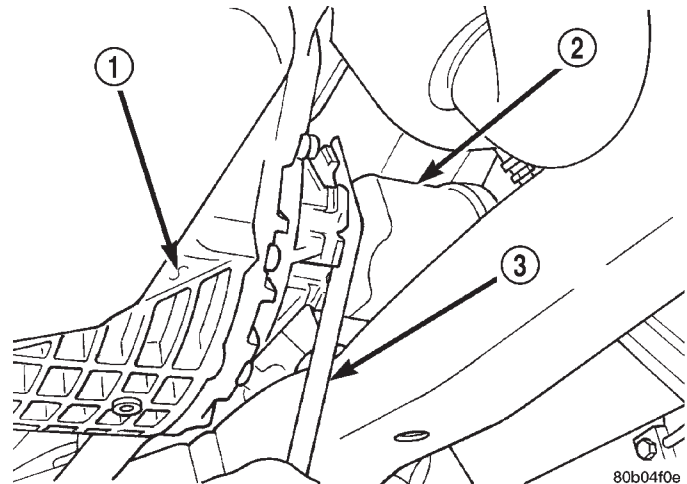

Fig. 104 Drive Shaft Removal
- (22) Using a pry bar, disconnect the inner tripod joints from the transaxle (Fig. 104).
- (23) Pull bottom of knuckles and drive shafts outward to allow clearance during transaxle removal. The drive shafts do not have to be completely removed from the vehicle. **Do not allow the inner tripod joints to hang unsupported or joint damage may occur.**